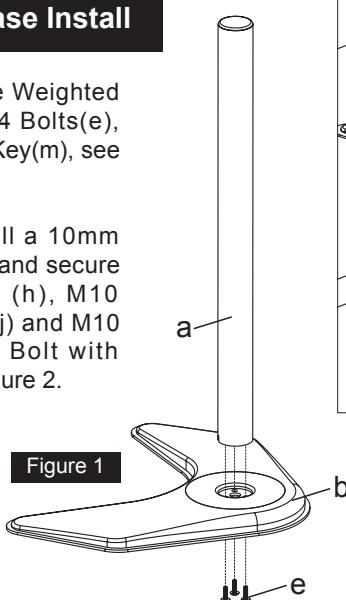

Figure 2
2. Optionally, you can drill a 10mm diameter hole in your desk and secure using the Support Plate (h), M10 Washer(i), Spring Washer(j) and M10 Bolt(g). Fasten the M10 Bolt with provided Wrench(n), see Figure 2.